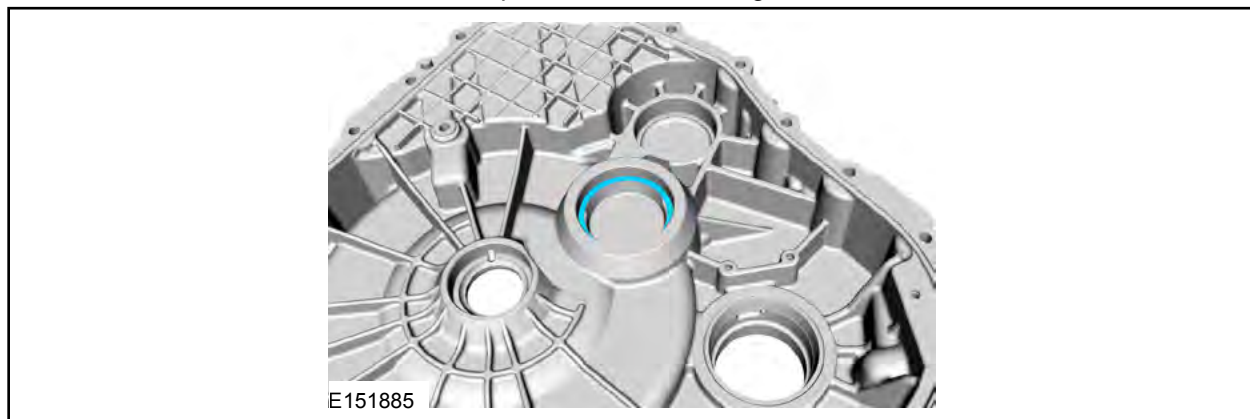

FIGURE 10
7. Remove and discard the transfer shaft preload shim. See Figure 10.